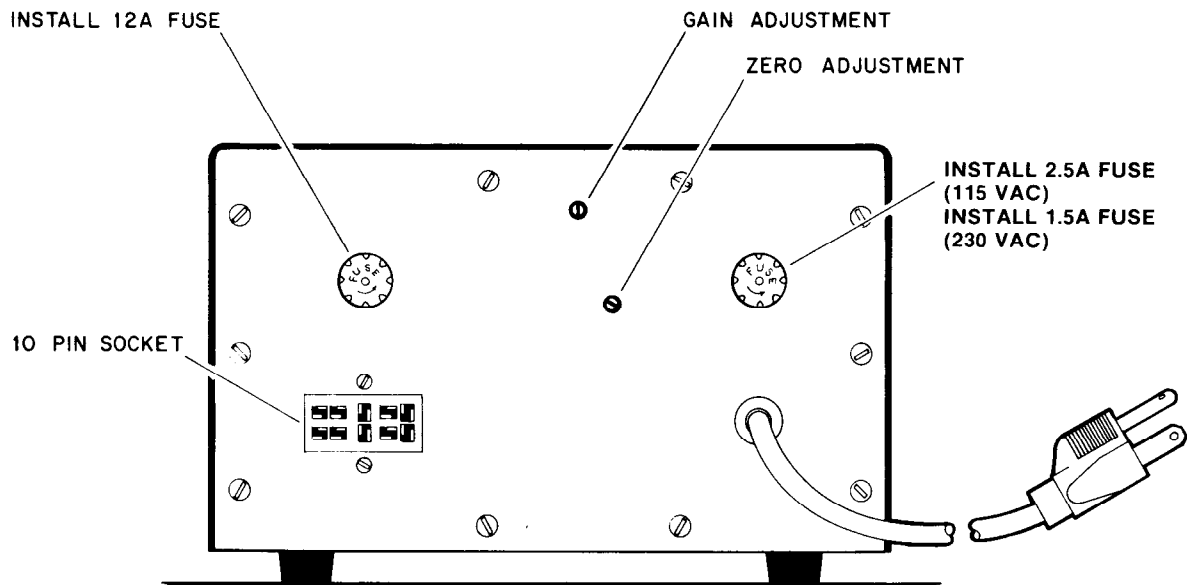

Figure 2
STEP 2: Referring to Figure 2, Control Console, install a 2.5 A fuse (1.5A for 230 VAC) and a 12A fuse in the appropriate fuse holders.
Set the rotor on the bench with the output shaft parallel to the bench top. Assemble the mast clamps and platform as shown in Figure 7. Insert the key into the keyway in the platform, and slide the mast clamp assembly onto the output shaft. This may unbalance the rotor, so you may wish to tip it back on the plastic housing. Turn on the control console and turn the rotator so the display reads "000". Line up the mast clamp assembly on a distant object, so that after turning the rotator through 360°, the mast clamp assembly is again lined up on the same object. Turn the rotator clockwise until this alignment is obtained. Using a small screwdriver, adjust the gain potentiometer so that the display reads "360". See Figure 2.